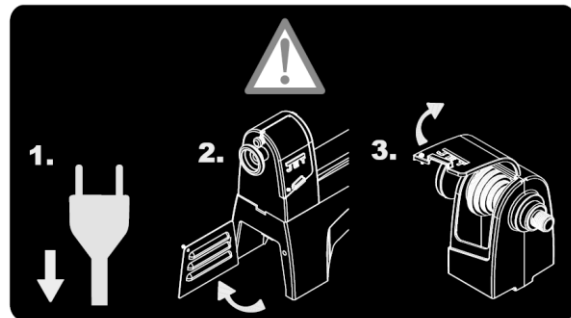

Fig 17
Mount the workpiece (A, Fig 17) directly to the face plate using 4 wood screws (C) from the back. Be careful to use screws short enough not to interfere with the cutting process but long enough to hold the workpiece securely to the face plate.